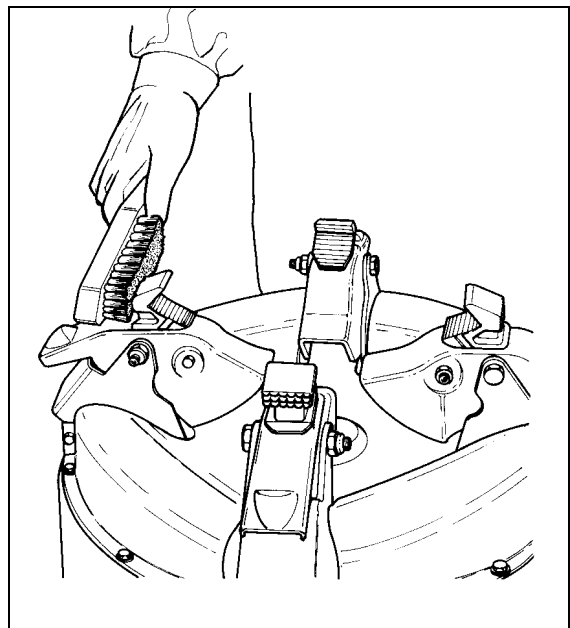

Fig.32
C. Clean the teeth of the clamps with a wire brush, check the plastic rim protector (inside the clamp) and replace it if worn (Fig.32).